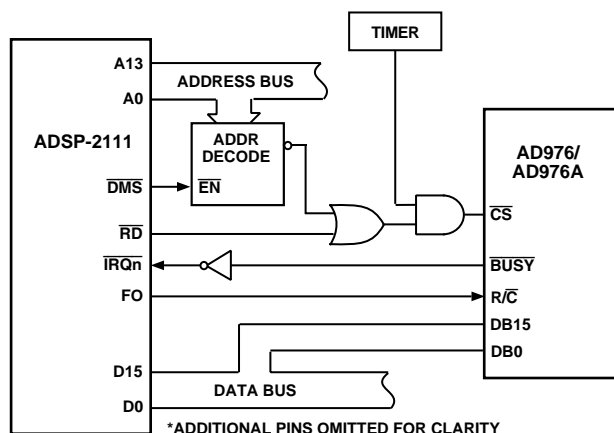

Figure 21. AD976/AD976A to ADSP-2111 Interface
Figure 21 shows an interface to the ADSP-2111 signal processor. In this example,  $\overline{CS}$  is being used to control conversions and is generated by an external timer. A conversion is initiated each time the timer output goes low as long as you are not reading from the AD976/AD976A and while the Flag Output (FO) pin of the ADSP-2111 is low. When a conversion is complete, the  $\overline{BUSY}$  line will return high. With the  $\overline{IRQn}$  pin programmed to generate an interrupt on a high-to-low transition, an interrupt will occur at the end of each conversion. The 16-bit result of the conversion can be read from within the interrupt service routine by first forcing FO high, then performing a read operation with the AD976/AD976A.